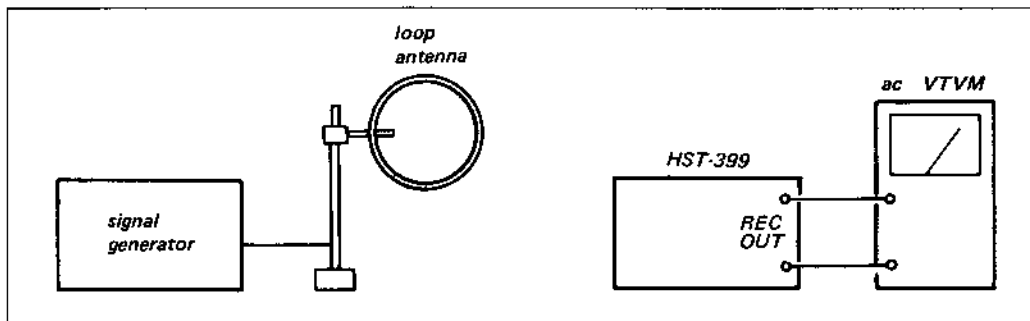

Fig. 3-22 A-m frequency coverage and tracking alignment test setup
3. With the equipment connected as shown in Fig. 3-22, set the receiver's controls as follows: